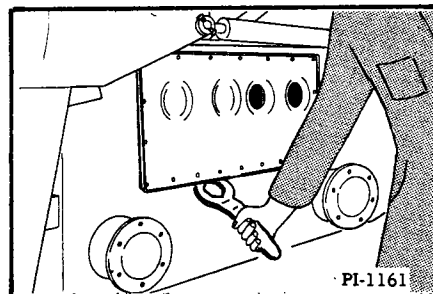

Fig. 63 Removing Gearcase Cover
6. Remove the gearcase cover (Figure 63).